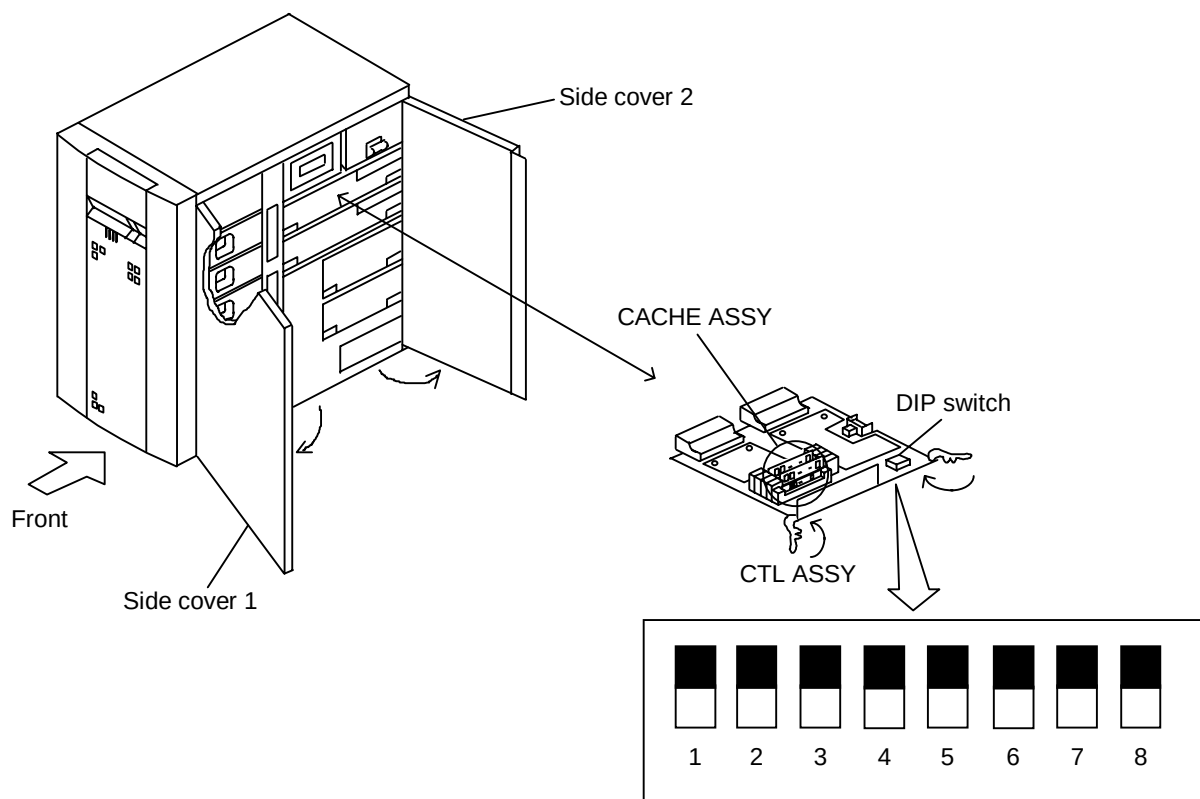

Figure 2.5.3 Installing the CTL ASSY
- (3) Open the side covers.
- (4) Install a CACHE ASSY in the additional CTL ASSY. (Mount a CACHE ASSY of the same capacity in the same corresponding slot of the optional CTL ASSY as those of the already installed CTL ASSY respectively as shown on MK-OPTION0160.)
- (5) Insert the CTL ASSY in a predetermined position with the right and left levers opened. Push the right and left levers in the arrow-marked ierection (→) at the same time. (See Figure 2.5.3.)